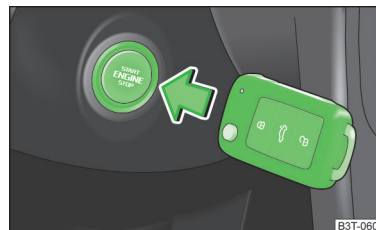

Fig. 135
- Press the starter button directly with the key **» Fig. 135**.
During an emergency start-up of the engine, the key bit must face the starter button **» Fig. 135**.